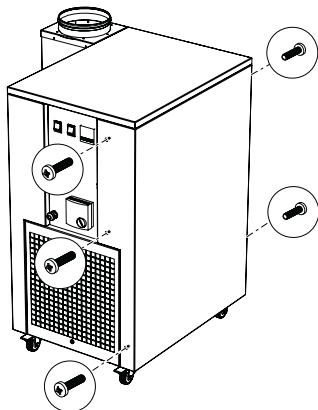

FIGURE 14: Screw for panel
1. Remove the screws by turning the screws counter clock-wise. "FIGURE 14: Screw for panel"